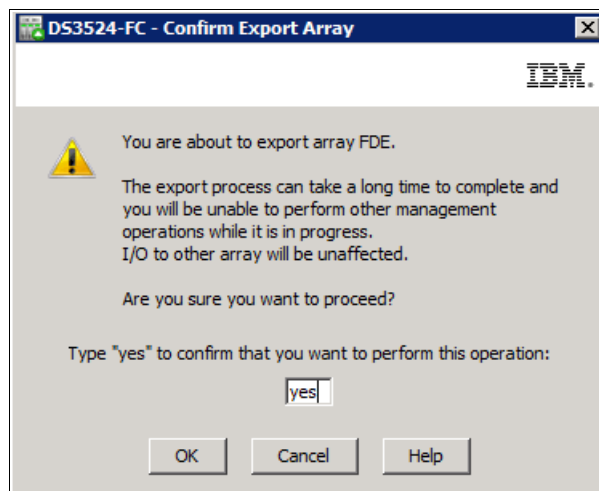

Figure 15-26 Confirmation to export array
4. For security reason you will be asked to verify this selection as shown in Figure 15-26.